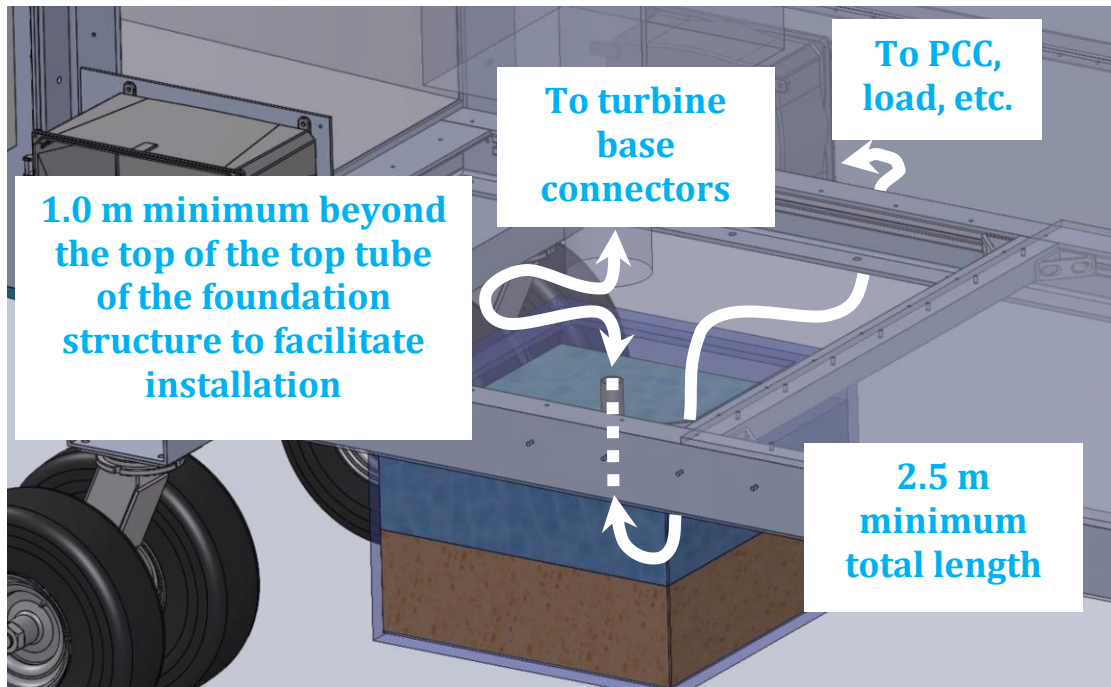

Figure 9. Electrical cable from turbine base through foundation to point of common coupling and load
- The installation of the electrical cable between the turbine and the electrical components outside the tunnel (e.g., point of common coupling [PCC], load) must be made through the top tube of the foundation structure. To facilitate this connection without placing connectors in the water, the student-provided cables from the outside electrical components to the turbine base must be installed through the foundation structure top tube during structure installation into the water/sand tank. At least 1 meter of extra cable must be available above the top of the foundation structure top tube to facilitate installation of this cable through the stub and to the connectors in the turbine tower base during turbine installation (see Figure 9). The connectors at the turbine base must be able to support the weight of the cable that passes down through the stub and into the water. Those connectors must always be kept dry, including during installation.
- Cables must be continuous and unbroken in the vicinity of the tank. No connectors may be in any position that would allow them to be submersed (Figure 9).